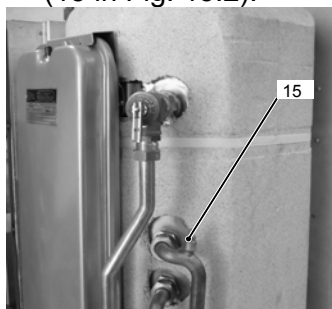

Figure 15.2
- Loosen the storage tank air purge valve (15 in Fig. 15.2).
- Close the storage tank air purge valve (15 in Fig. 15.2) when water flows out.